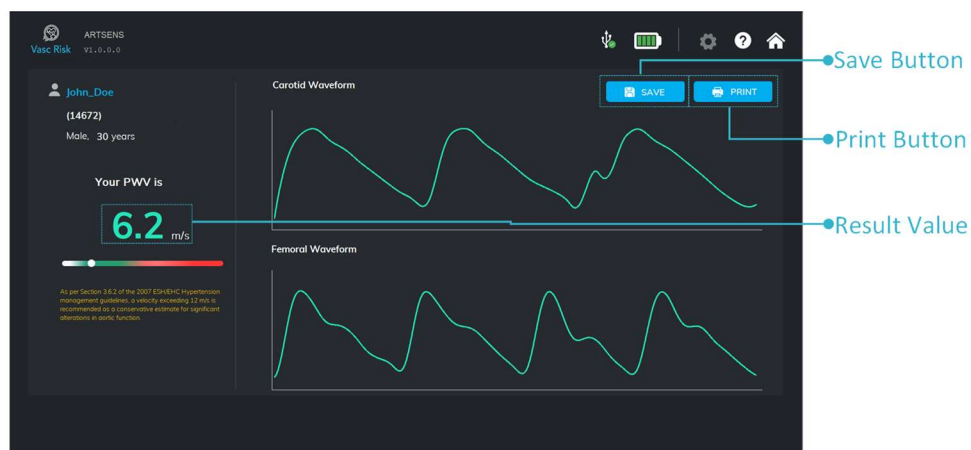

Fig.26. Result Page
18. When the measurement is complete, the Progress bar fills up to its maximum and the Results page appears as shown in fig. 26.